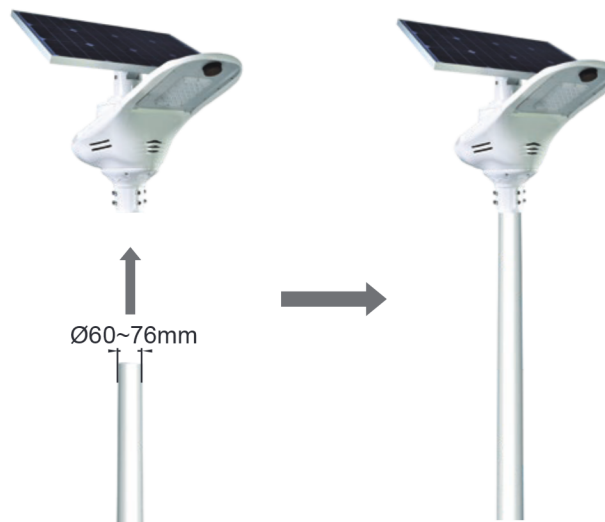

Figure 5
- ④ **Complete system:** Attach the lighting system to the pole or column with 8pcs M10X25 screws. The maximum torque for the M10X25 bolts is 29Nm. Do not exceed this torque. (See Figure 5)